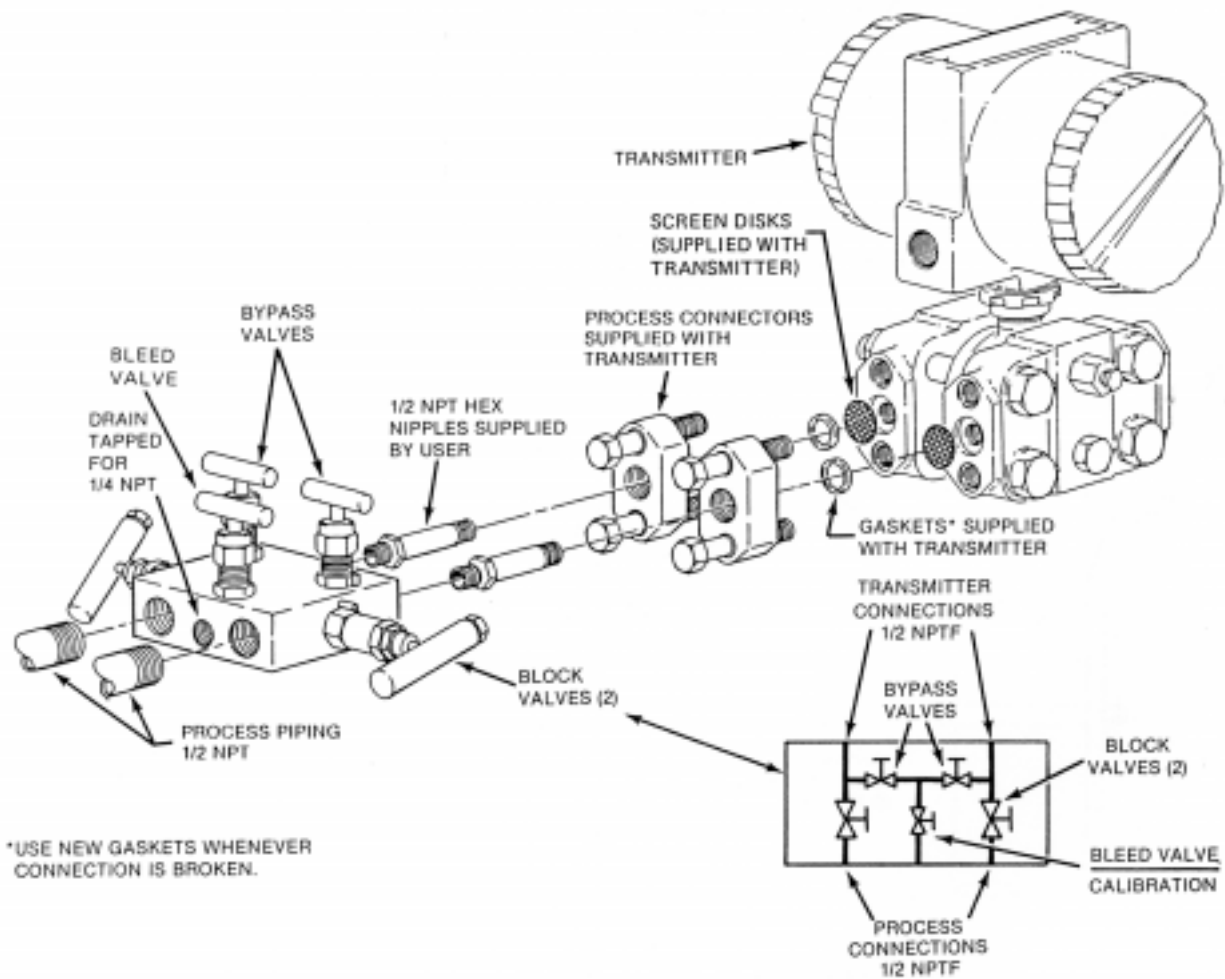

Figure 6. Installation of 5-Valve Bypass Manifold
1. Refer to Figure 6. Screw process piping into manifold.